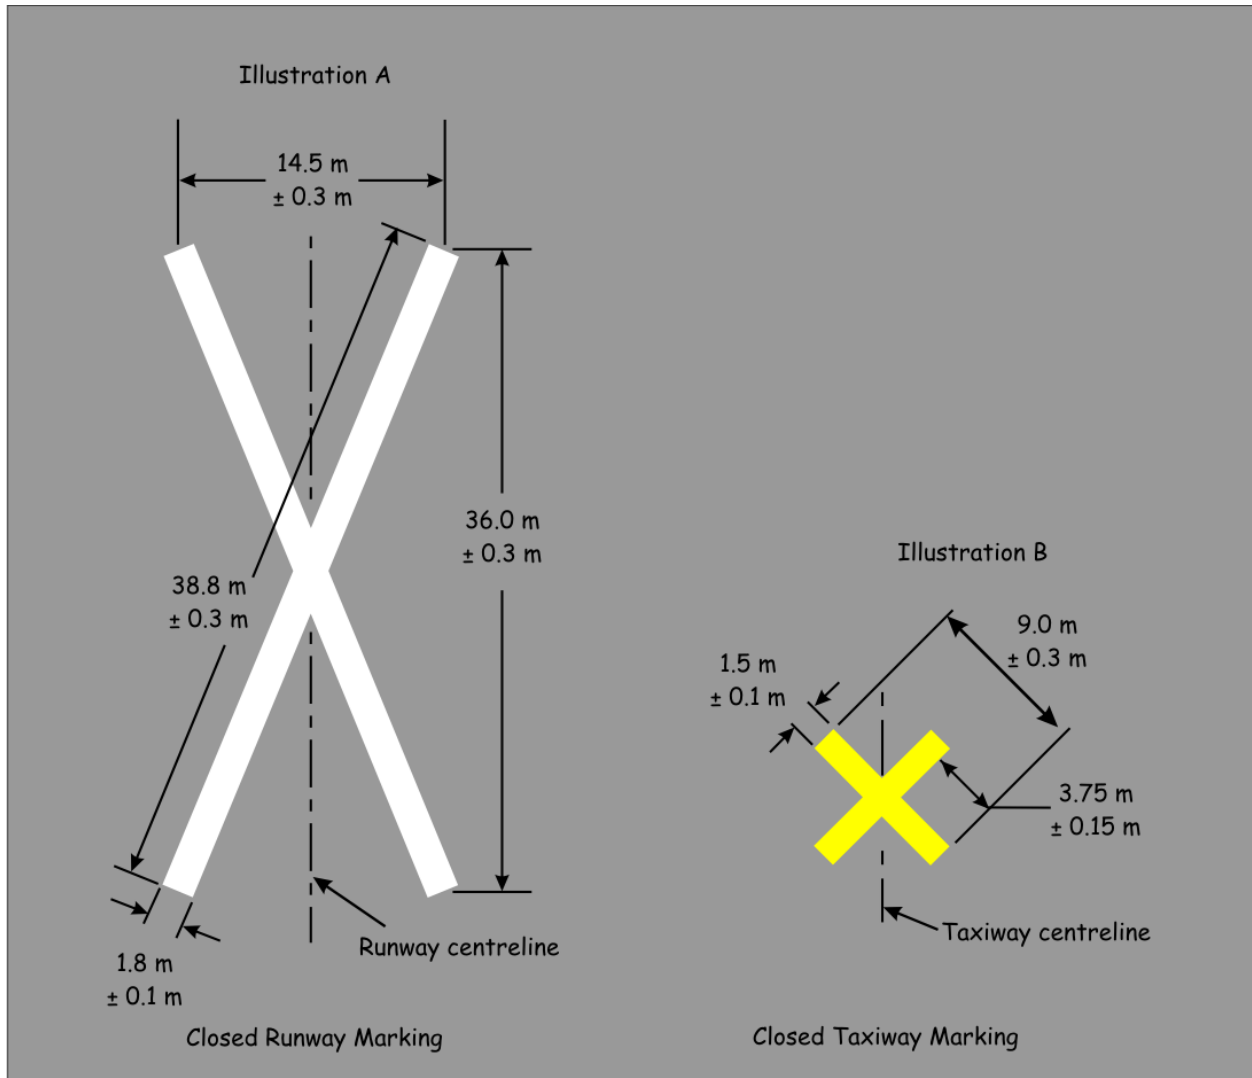

Figure 5-20: Closed runway and taxiway markings
- 5.2.24.5** Subject to 5.2.24.7, the unserviceable/closed marking on a runway is white and of the form and proportions detailed in Figure 5-20, Illustration A.
- 5.2.24.6** Subject to 5.2.24.7, on a taxiway or apron, the unserviceable/closed marking is yellow and of the form and proportions detailed in Figure 5-20, Illustration B.
*Note 1: The intent of (b) is to allow for the use of alternatives to paint such as a large plastic X that would be of the form and proportions of Figure 5-20.*